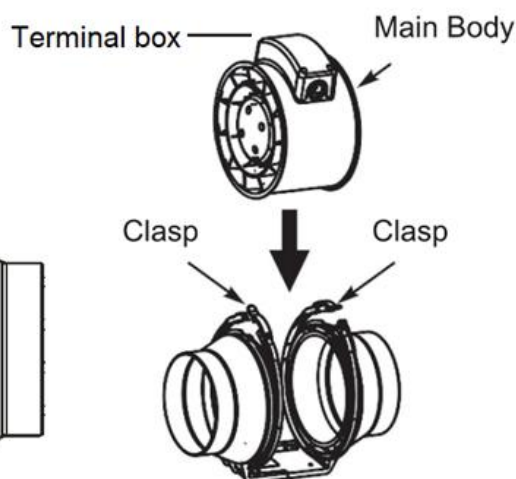

Fig. 10 – Install main body
5. Fit the main body back to the clasp and tighten the locking screws. (Fig.10)